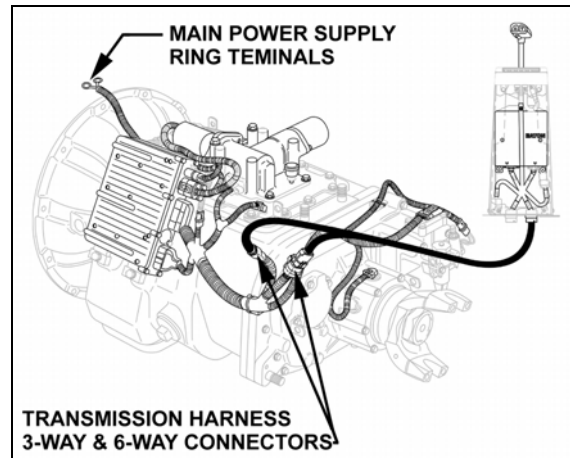

FIGURE 15: EATON TRANSMISSION CONNECTIONS^{S07051}
8. Disconnect main power supply ring terminals (Fig. 15).
9. Disconnect transmission harness 3-way and 6-way connectors (Fig. 15).